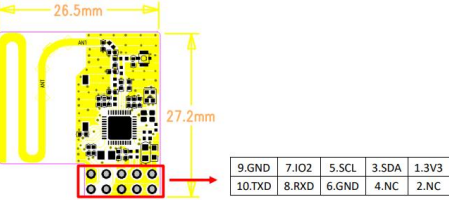
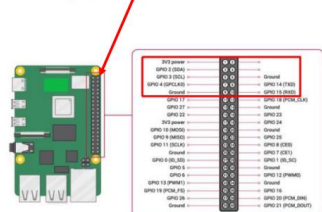

Figure 1
Figure 2
3. The module is installed with the corresponding interface (see Figure 1), and is one-to-one connected with the standard interface (pin 1-10) on the PI motherboard (see Figure 2).